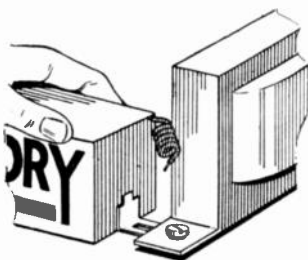
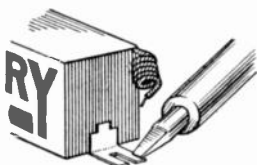

FIGURE 2
FIGURE 3
B. One end may be pushed under any screw head on the chassis without removing the screw as in Figure 2. The other end may be left loose or soldered to the chassis as in Figure 3.
C. One flange or both flanges may be soldered to the chassis as in Figure 3. Tin the chassis first, then solder in place.